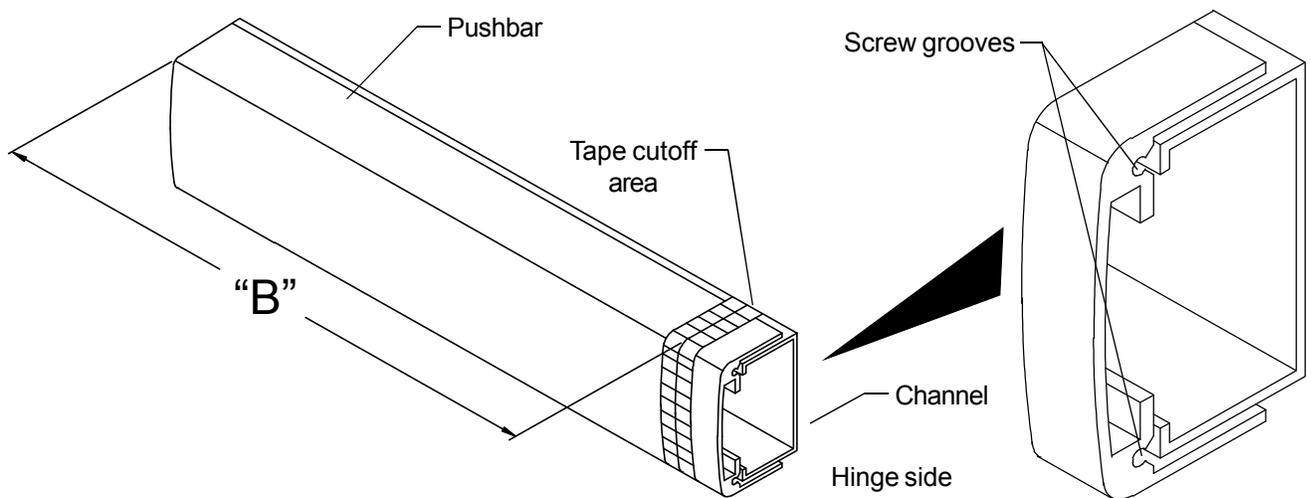

Figure 2
- 2.2. Subtract $5/8$ " from "D" dimension to determine cut length ("B" dimension in Figure 2). See chart below for minimum "B" dimension.
- 2.3. Collapse pushbar, tape down in cutoff area, and mark "B" dimension on tape (see Figure 2).